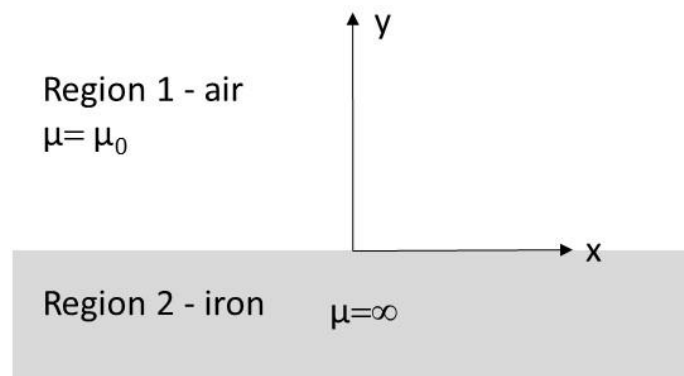

Figure B4.1. Two-dimensional interface between an air and iron region
- c. Figure B4.1 shows the boundary between a region of air and an idealised region of iron with infinite permeability. Assuming that the problem domain is two-dimensional and there is no current present at the interface, then:
- d. A surface current density whose spatial variation with x is defined by the following expression is now introduced at the boundary shown in Figure B4.1: